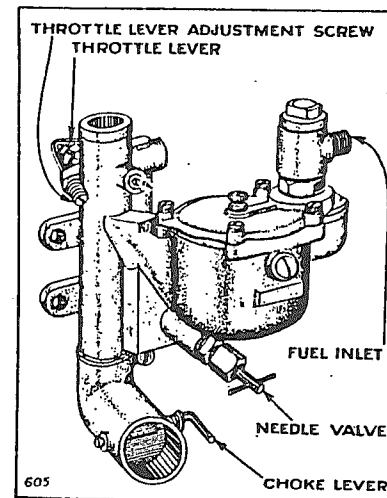

Fig. 10
54. **Fuel Feed Adjustment.** The carburetor is provided with one adjustment, the needle valve see Fig. 10, which controls the volume of fuel delivered thru the main nozzle. To close needle valve turn to the right, or clockwise, (never force the needle valve against its seat). Turning needle valve to the left or counterclockwise, opens it.